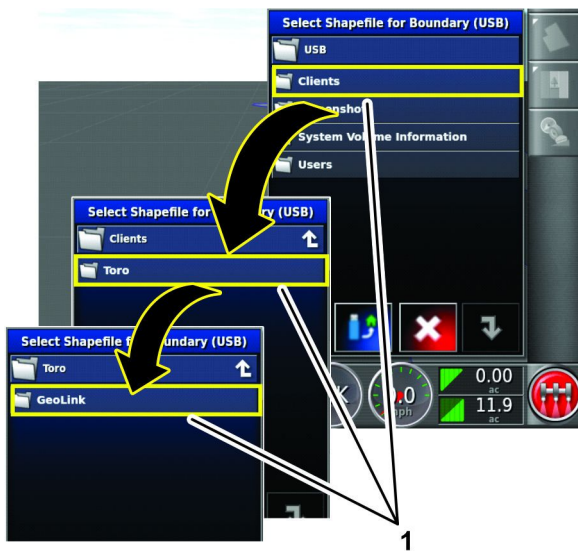

Figure 75
- Press the directory icons to navigate to the GeoLink directory (Figure 75).